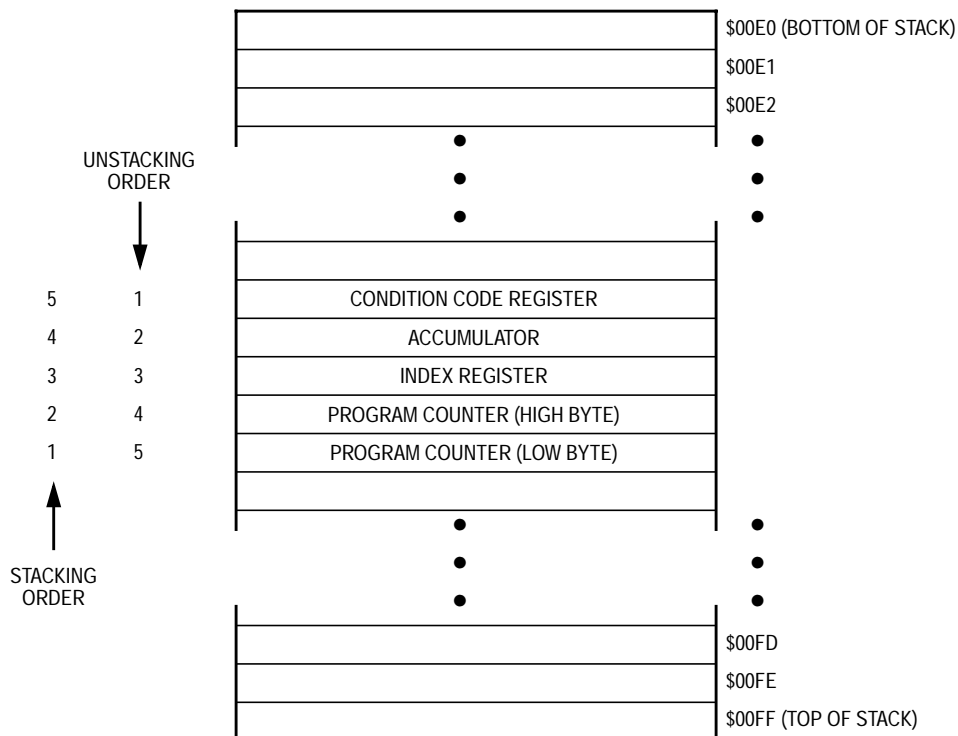

Figure 4-3. Interrupt Stacking Order
- Stores the CPU registers on the stack in the order shown in Figure 4-3
The return-from-interrupt (RTI) instruction causes the CPU to recover the CPU registers from the stack as shown in Figure 4-3.